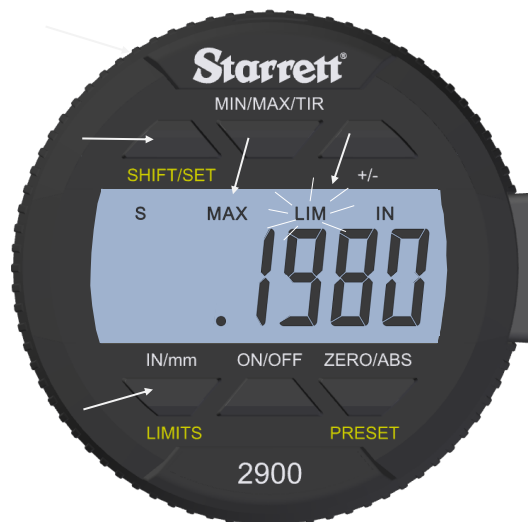

Fig.7
8. Press the **LIMITS** button. The MAX LIMIT icon will appear in the top middle of the display, see Fig.7.